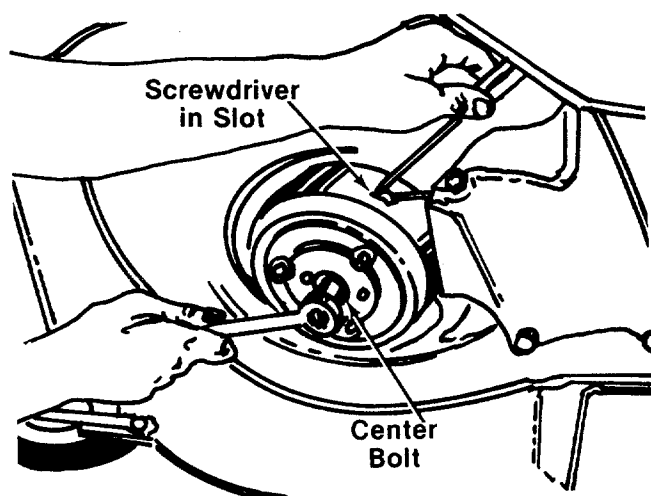

FIGURE 18.
- a. Insert a screwdriver into the slot provided in the blade brake/clutch housing where the control cable enters housing. See figure 18.